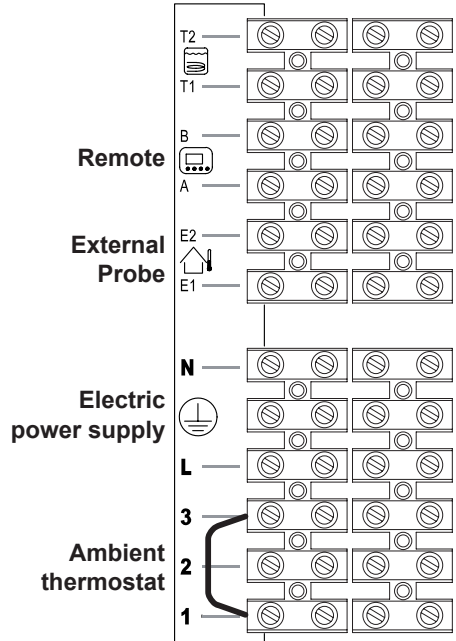
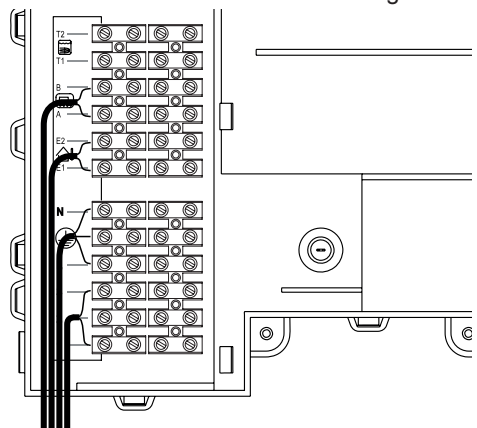
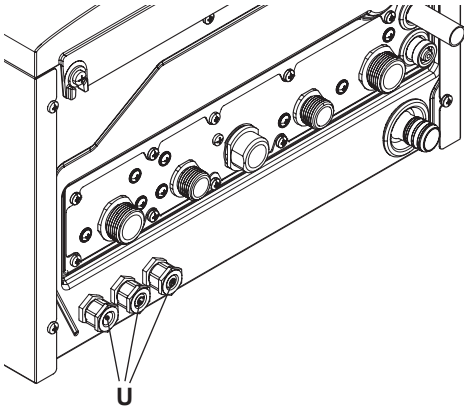

Fig. 6.16
Fig. 6.17
Fig. 6.18
- Connect the electric power supply cable coming from the fused spur isolation switch to the power supply terminal block of the boiler Fig. 6.16 keeping the same connections for the live (brown wire) and the neutral (blue wire). External 3A fuse or fused plug with same current rating is recommended.
The route of the boiler and ambient thermostat's electric power supply cable or wires must follow the route indicated in Fig. 6.17.
Allow the cables to exit the boiler by using the relevant cable clamps "U" (Fig. 6.18).
Use the clamps indicated in Fig. 6.16 to connect the ambient thermostat.
Use the ambient thermostat's clamps indicated in Fig. 6.16 and Fig. 6.17 to connect the zone valve. Insert the electric cables of the zone valve's micro switch contacts in clamps "1 and 3" of the ambient thermostat's terminal block as in Fig. 6.17.
The route of the boiler and ambient thermostat's electric power supply cable or wires must follow the route indicated in Fig. 6.17. Allow the cables to exit the boiler by using the relevant cable clamps "U" (Fig. 6.18).
The route of the external probe's connection wires must follow the route indicated in Fig. 6.17. Allow the cables to exit the boiler by using the relevant cable clamps "U" (Fig. 6.18).
The route of the remote control cable must follow the route indicated in Fig. 6.17. Allow the cables to exit the boiler by using the relevant cable clamps "U" (Fig. 6.18).